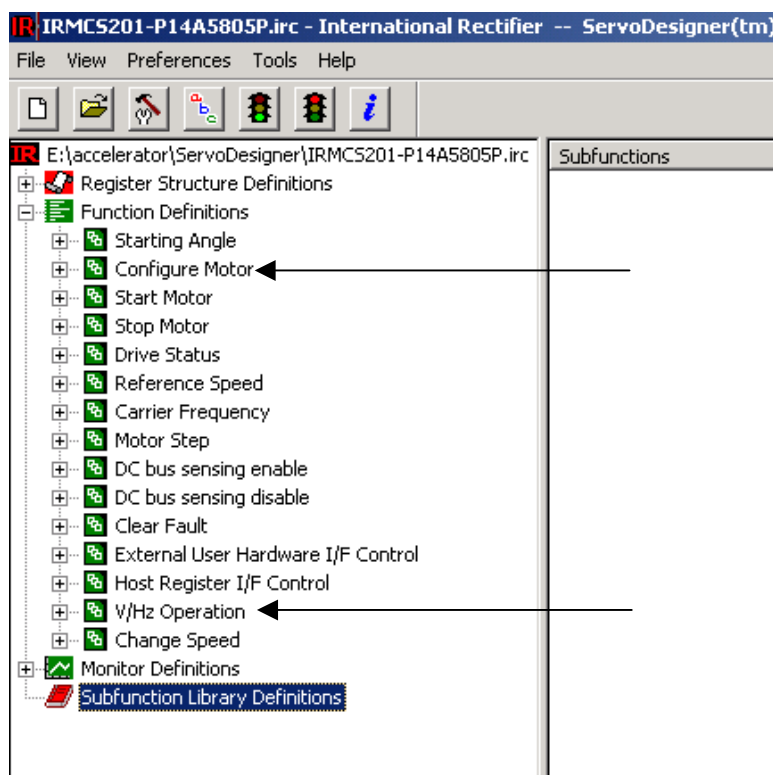

Figure 24. ServoDesigner Functions
- Execute the Configure Motor function by clicking the toolbar button (hammer and wrench icon) or double clicking the Configuration Motor function in the tree view (as shown in Figure 24).